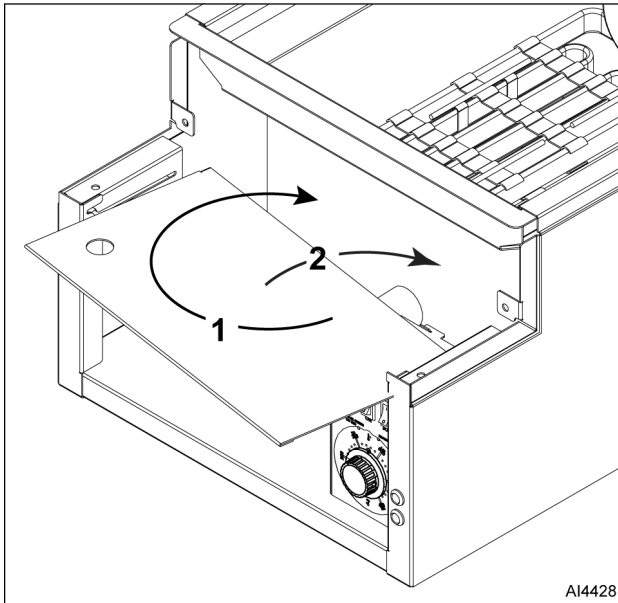

Fig. 12
2. Rotate and lift to remove fryer door plate (Fig. 12).